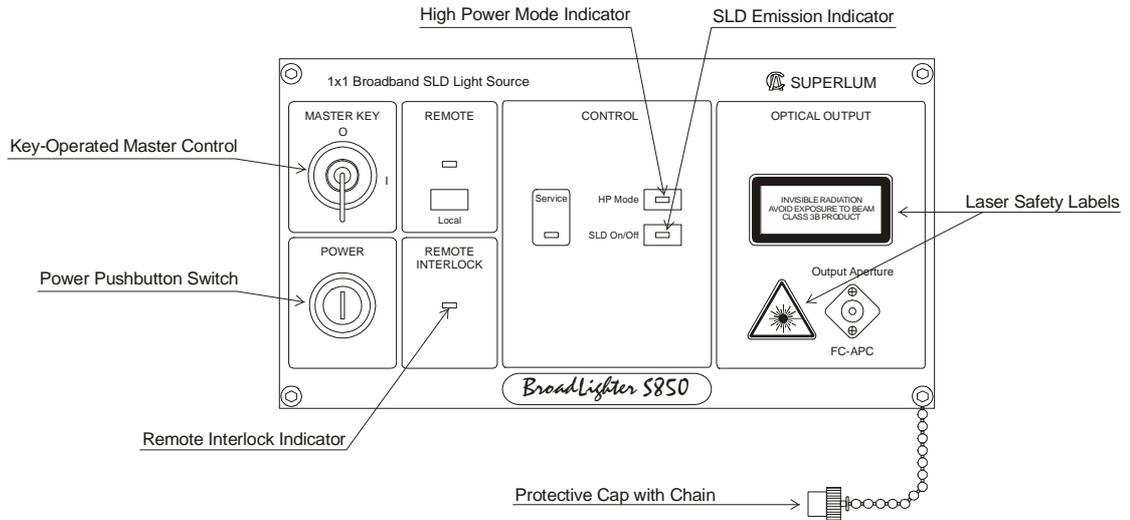

FIGURE 1.3. Front-Panel Laser Safety Features
- ❑ **Key-operated master control**—Located on the front panel of the instrument, this switch provides access to activation of the optical output (see Figure 1.3). The BroadLighter is inoperable when the key is removed. Using the key-operated master control prevents unauthorized activation of the optical output emission.